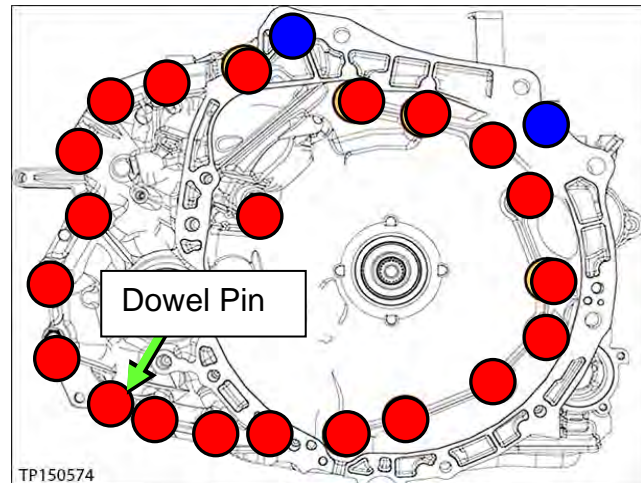

Figure 1C
1. Remove all 23 converter housing mounting bolts (see Figure 1C).